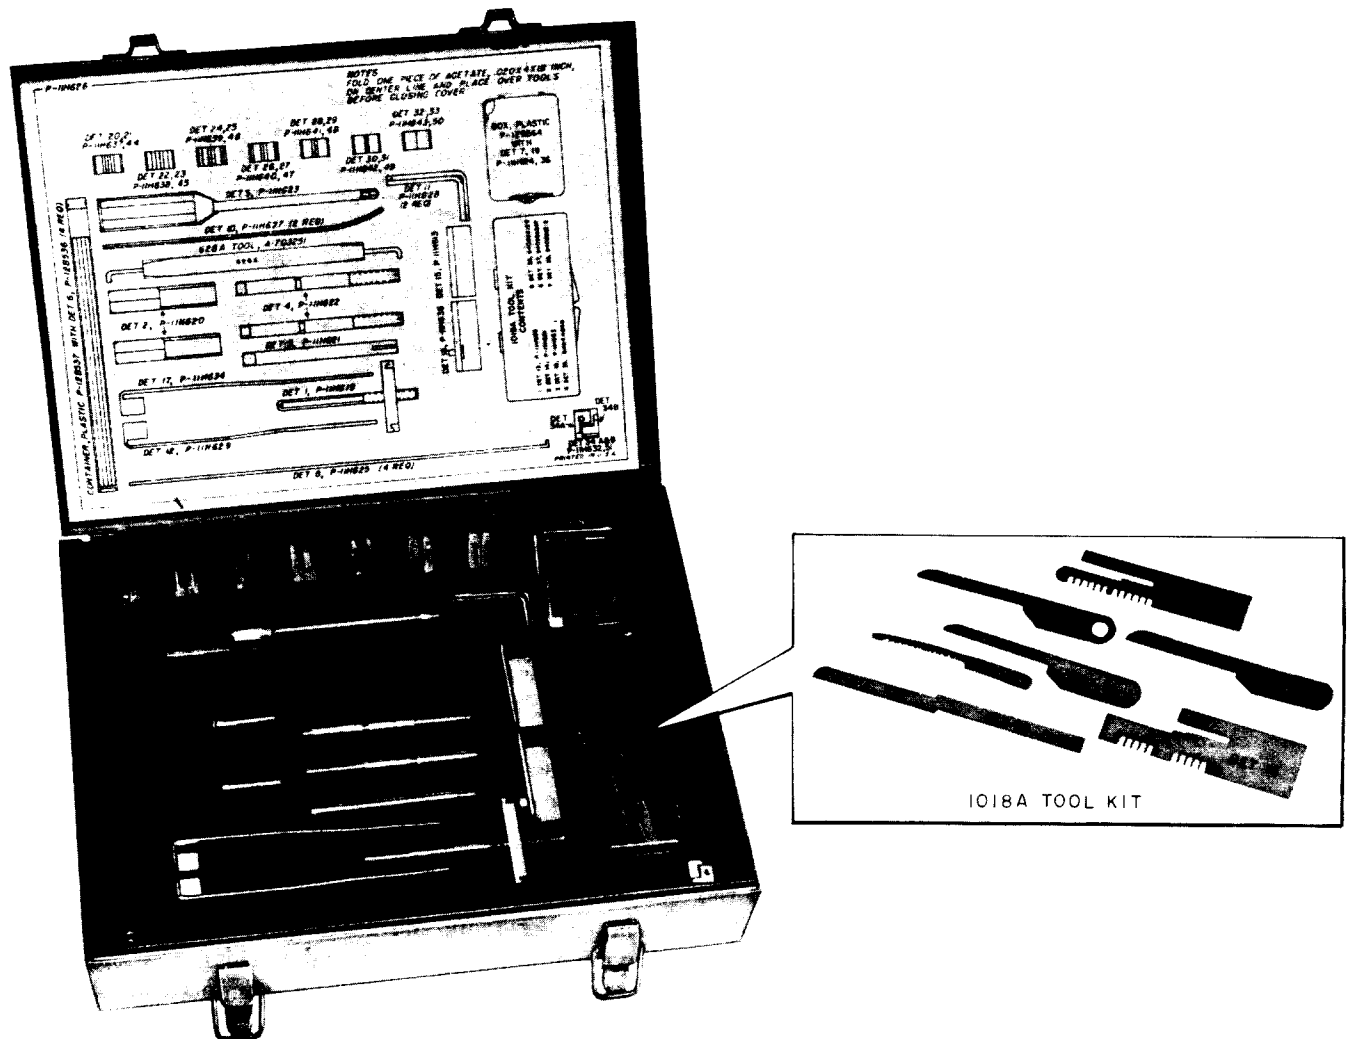

Fig. 2—1017A Tool Kit Including 1018A Tool Kit
- 3.02** Fig. 2 shows the tools comprising the 1017A and 1018A tool kits.